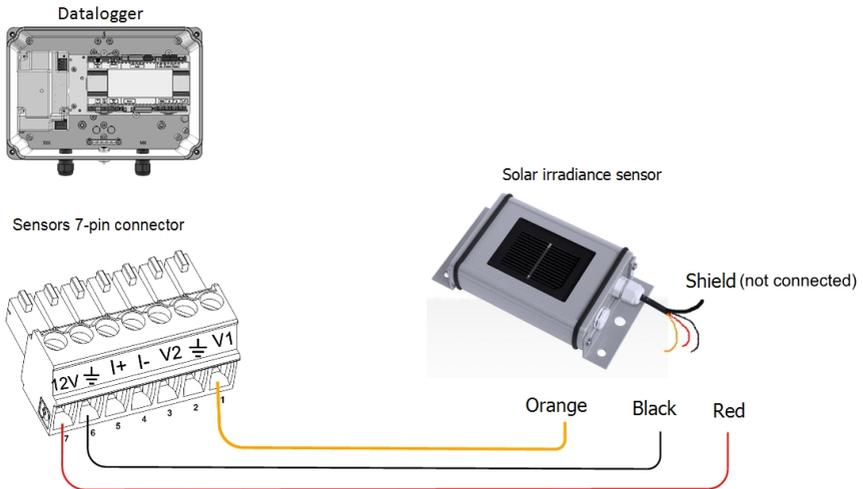

Figure 19: Solar irradiance sensor connection
1. Connect the thin wires to the CCG sensors connector as follows (see *Figure 19*):